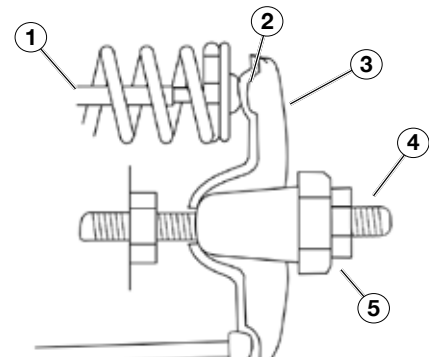

Figure 21
5. Insert a feeler gauge between the rocker arm and the push rod and check for clearance (see Figure 21). See table below for valve lash specifications